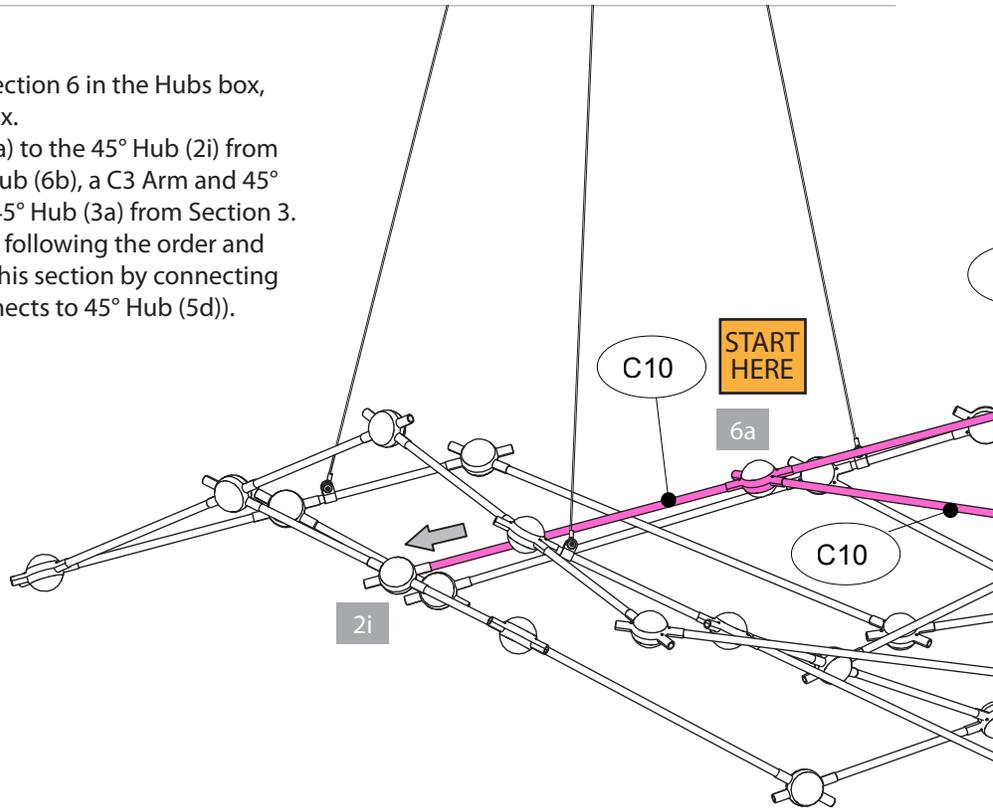

Fig. 10a - Front View
- Continue by connecting Arms and 45° Hubs following the order and pattern in the Figs. 10a/10b, and complete this section by connecting Hub (6e) to the C6 Arm from Section 5 (connects to 45° Hub (5d)).